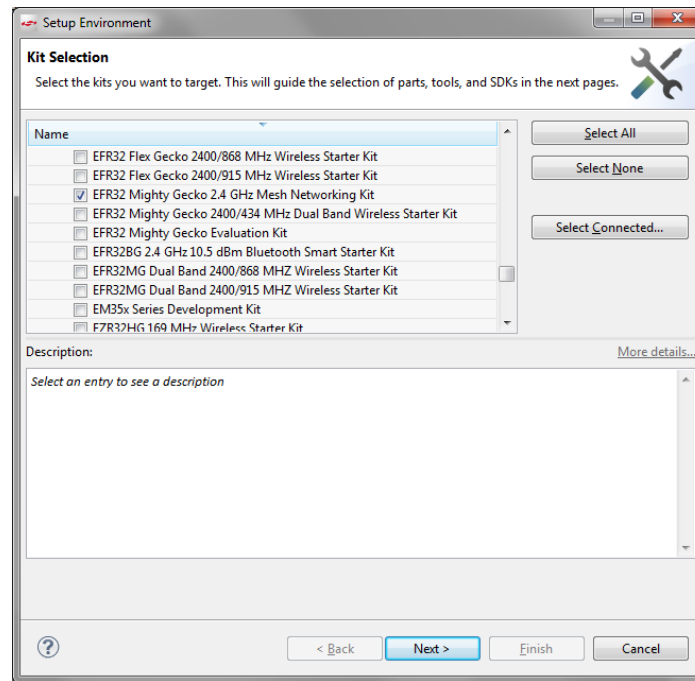

Figure 6. Kit Selection Dialog
6. A kit selection dialog is displayed (Figure 6). Your connected kit should be selected. Click **[Next >]**.